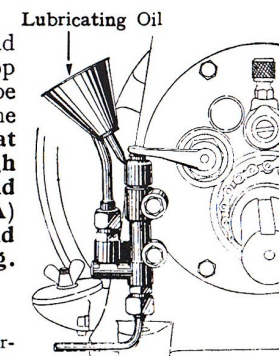
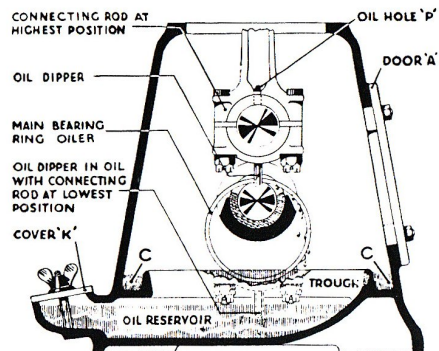
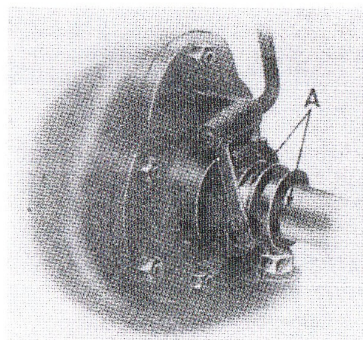
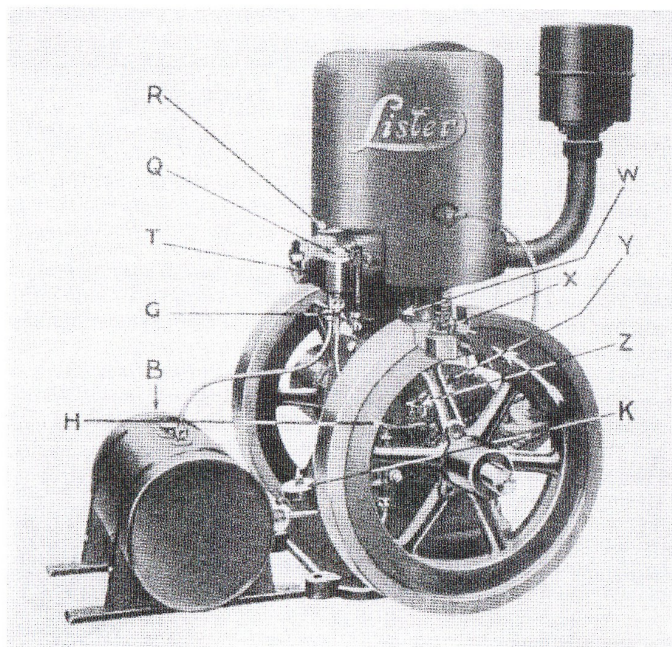

Fig. 3a.
Fig. 1.—Cross Section through Crankcase
Fig. 2.—Governor Quadrant
Fig. 3.
1. Remove Inspection Door: Oil Connecting Rod Big End Bearing both sides. Fig. 1 "P."
2. Fill Trough until it overflows (replace door). Fig. 1 "A."
3. Through Lubricator Hole: Oil Intermediate and Pump Spindles. Fig. 3 "Z."
4. Oil Governor Quadrant Fig. 2 "A"
5. Oil Pump Plunger. Fig. 3 a.
6. Remove Oil Filler "K" Fill up Reservoir until oil (about 1½ pints) reaches edge of filler. Fig. 1 & 3 "K."
7. Give Greaser on end of Camshaft one turn and refill frequently. Fig. 3a.
Occasionally remove cover of oil filler (K) and add sufficient lubricating oil to fill up filler "K" to the top (see Fig. 1). On no account must the oil level be allowed to fall so low that you can see the bottom of the filler. **Using oil can, put a little oil on the tappets at (W) (Fig. 3), also on the governor sleeve through the hole in the top of the bearing housing, and well lubricate governor quadrant at position (A) (Fig. 2), all the Governor outside connections and put a few drops of oil on fuel pump plunger (Fig. 3a). Re-fill small greaser on end of camshaft.**